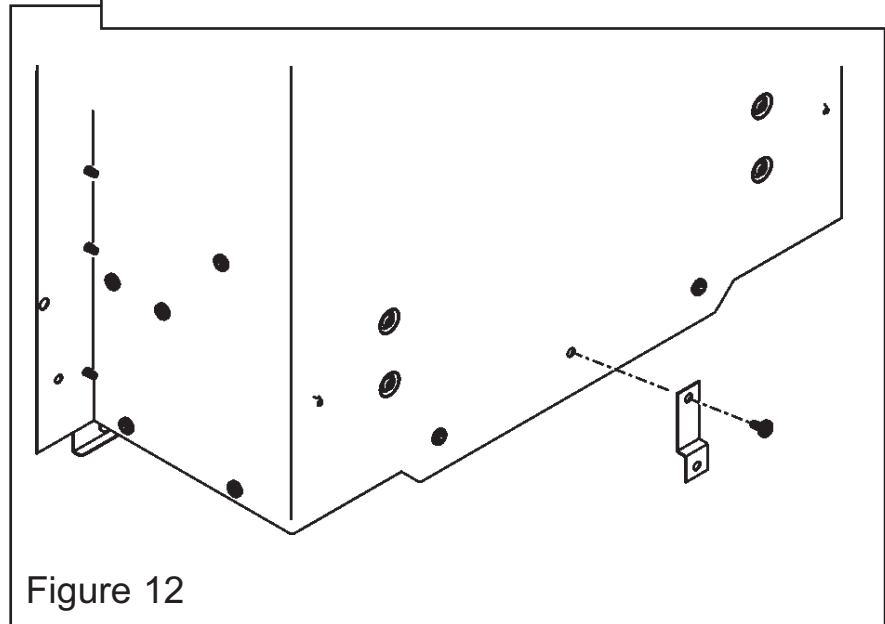

Figure 12
3. Secure the lower bracket to the rear of the heater using one of the No.8 x 3/8 screws supplied (See figure 12).